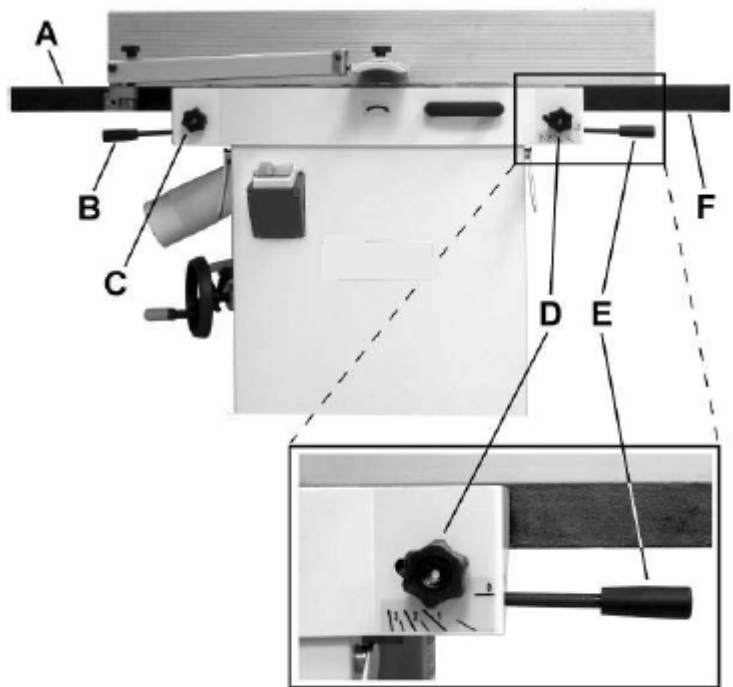

Figure 6
Referring to Figure 6:
2. Loosen the lock knob (A) and slide the cutterhead guard (B, C) to clear the table.
5. Place a straight edge (D) across the front of the outfeed table (F) and extending over the infeed table (G). Note the position of the infeed table (G). Note the position of the straight edge in Figure 6 with respect to the fence (H).
2. Remove the cutterhead guard (B, Fig. 6).
3. Turn all five screws (A) into the lock bar (B) by turning in a clockwise direction as viewed from the infeed table (G).
4. Carefully remove the cutter knife (C) and lock bar (B).
7. Insert replacement knife (C) into the knife slot, making sure it faces the proper direction.
8. Insert lock bar (B) and tighten just enough to hold in place.